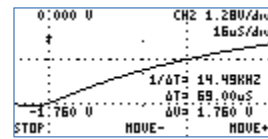

Figure 63: Half-life measurement
- 12) The display should look like figure 63. The measured time $T_{1/2} = 69\mu$ s, is the "half-life" time, so $RC = 99.95\mu$ s